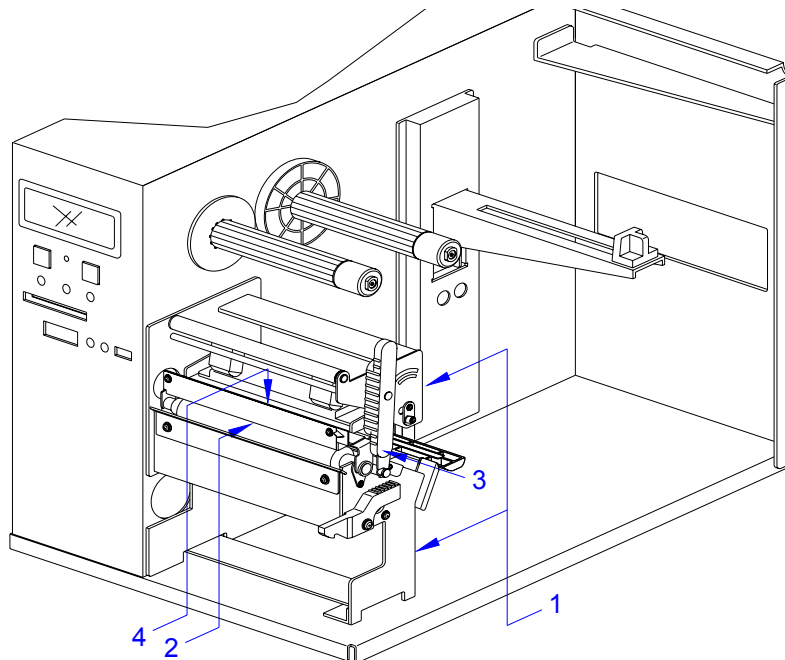
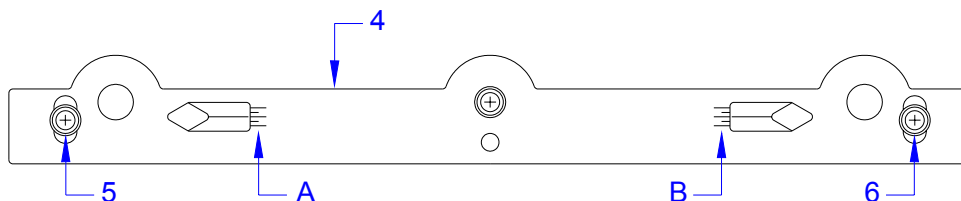

Figure 6-5a, Print Head Alignment
Figure 6-5b, Print Head Alignment
- 1 Open the right housing cover to access print assembly (1, Figure 6-5a).
- 2 Ensure print head (2) is latched (3).
- 3 Look downward to print head (2) to locate head alignment plate (4, Figure 6-5b).
- 4 Ensure the values of alignment scales (A) and (B) are the same.
- 7 Test print a label to determine if print head (2, Figure 6-5a) is properly aligned.